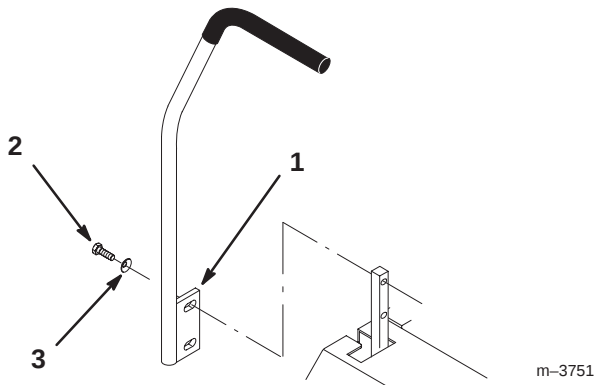

Figure 3
1. Remove the (4) 3/8–16 x 1" (26 mm) bolts and (4) 3/8" spring washers which attach the motion control levers to the control arm shafts for shipping (Fig. 3).
2. Place the levers (with the mounting plate towards the rear) on the outside of the control arm shaft and secure with (4) 3/8–16 x 1" (26 mm) bolts and (4) 3/8" spring washers (Fig. 3).
4. Align the front/rear position of the levers, with each other, in the neutral position. Loosen hardware and adjustment by sliding/tilting the lever(s) forward or backward until properly aligned (Fig. 3).